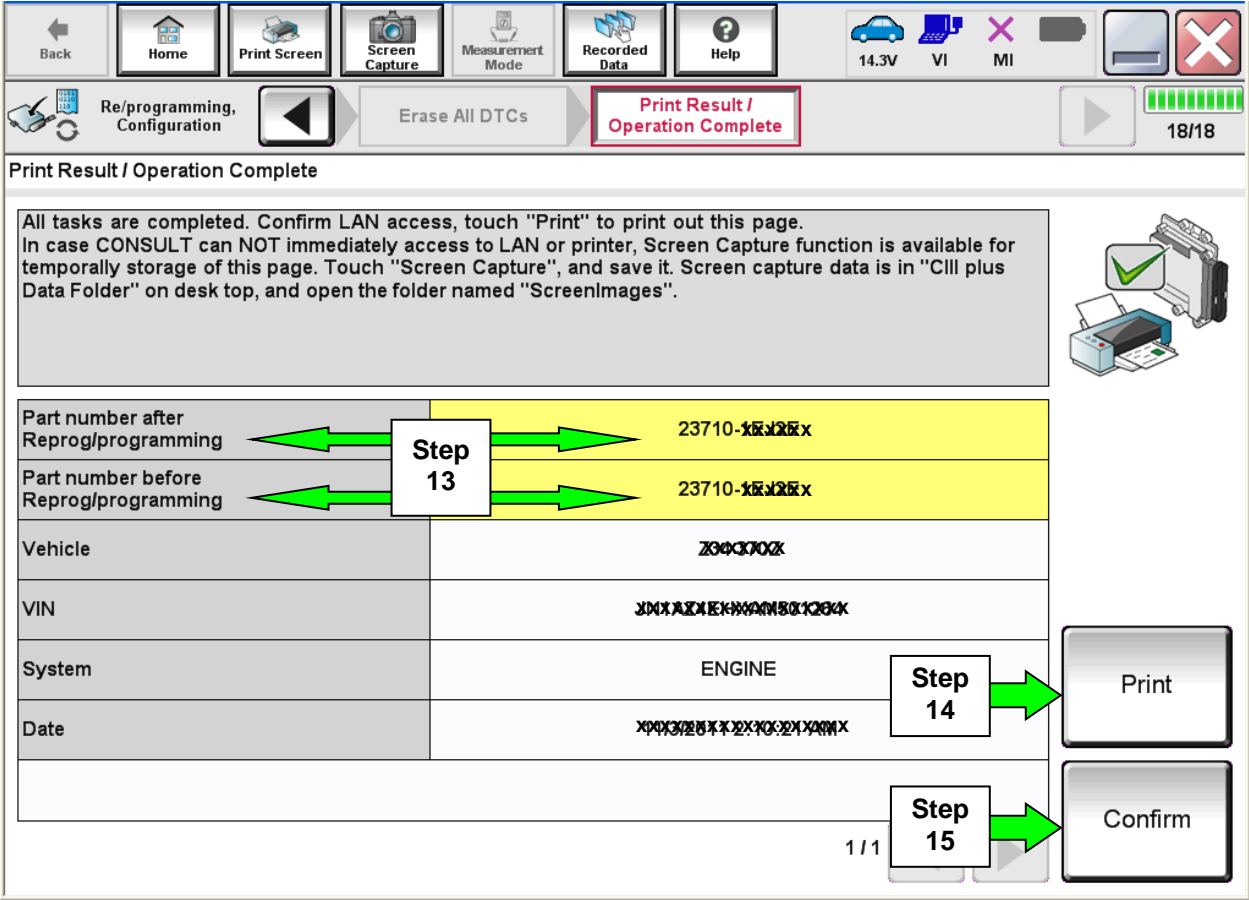

Figure 7
- 12. When the entire reprogramming process is complete, the screen in Figure 7 will display.
- 14. Print a copy of this screen (Figure 7) and attach it to the repair order for warranty documentation.